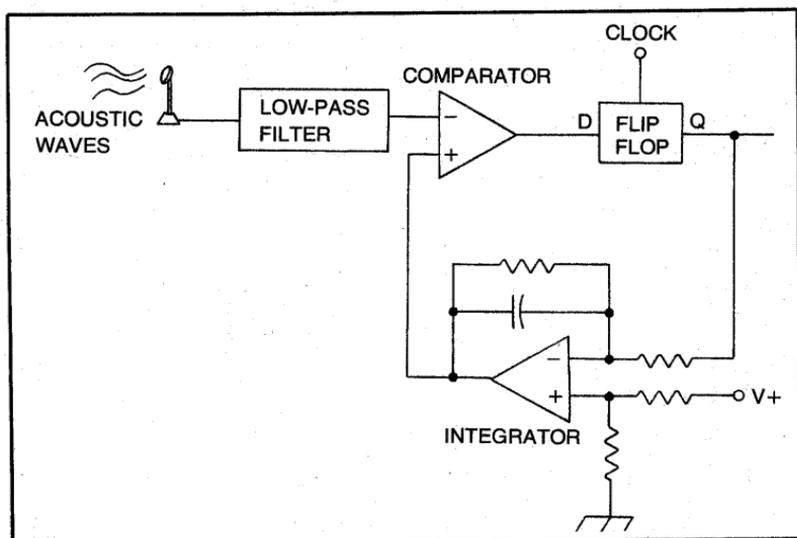
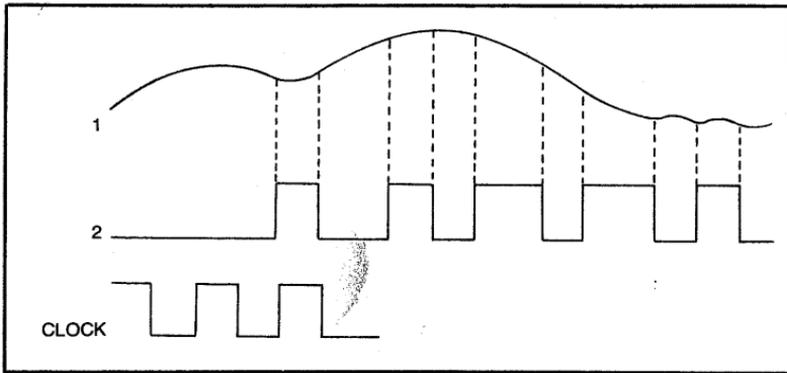

Fig. 6-4. A simple delta modulation input circuit.
Fig. 6-5. The input signal (1) gets stored as a digital representation (2) of its amplitude changes.
Figure 6-4 illustrates a simple delta modulator. The comparator detects changes in the input level with respect to the previous input level. The integrator provides the feedback for the comparison. The flip-flop at the comparator's output squares up the pulses and produces a clean digital-data stream. The incoming signal, therefore, starts out like the analog wave shown in Fig. 6-5 (1) and winds up looking like the digital signal (2). Obviously, the faster you run the clock, the smaller the change the system can record. When you can resolve the smallest perceptible changes, you'll have achieved high fidelity. You will also have pushed the clock speed so high that you'll have the same old memory usage problems you had with the codec-based system.